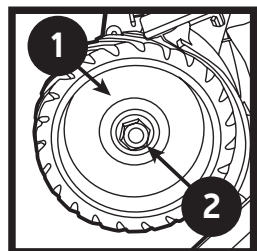

Figure 3
1. Open wheel cover door and remove contact wheel with 15/16" socket wrench. (Figure 3)